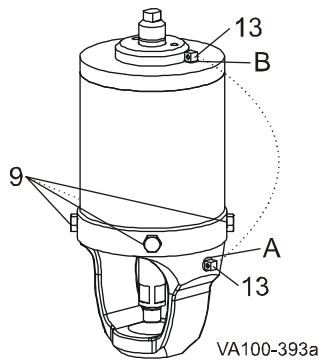

Figure 40: Cap Screws and Vent Plug
7. Install the piston/spring assembly in the actuator cylinder and assemble them with cap screws (Figure 40, item 9).
8. Reverse the vent plug (Figure 40, item 13) as follows:
Air-to-Raise Actuator: The vent plug must be located on TOP of the actuator in Port B (Figure 40, item B).
Air-to-Lower Actuator: The vent plug must be located on the SIDE of the yoke in Port A (Figure 40, item A).